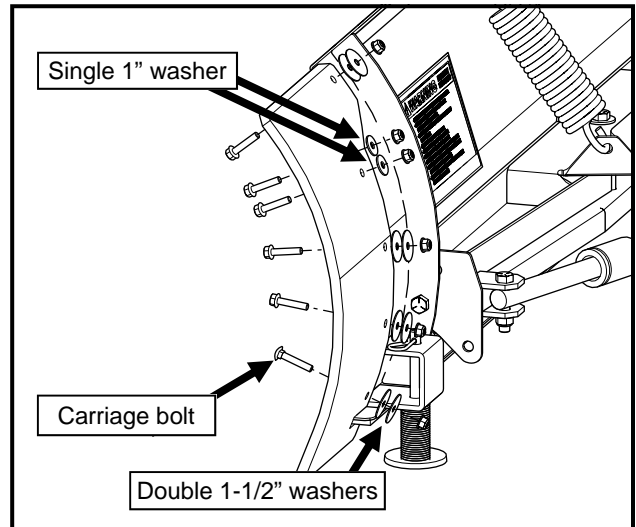

Figure 2 - Attach Extension Wing
- Per figure 2, attach the extension wing to the back side of the moldboard with five hex bolts and one carriage bolt through the cutting edge, from the front of the moldboard.